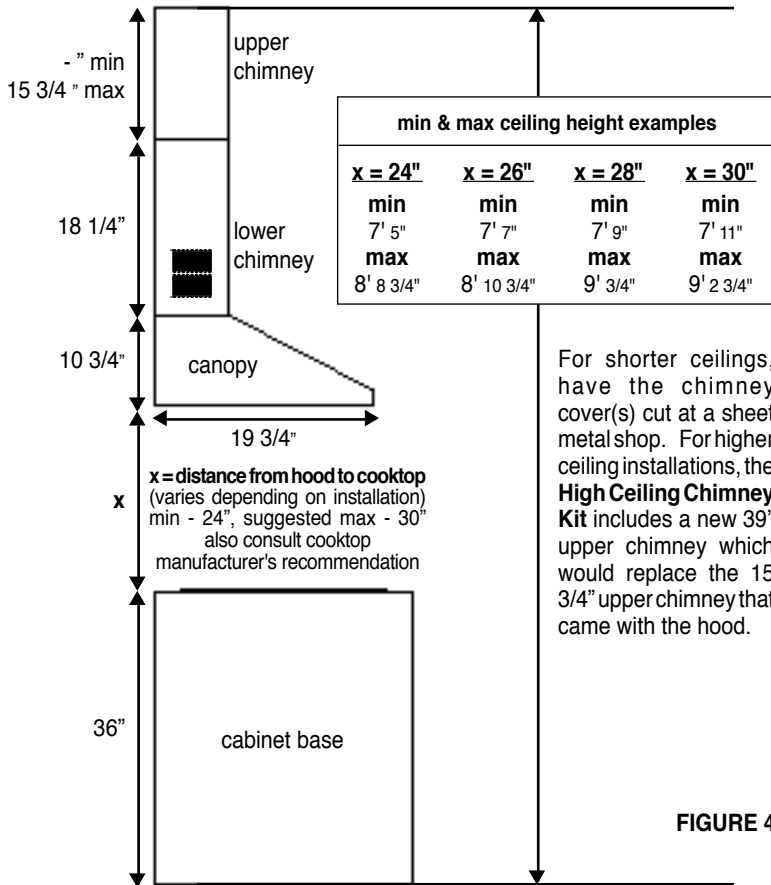
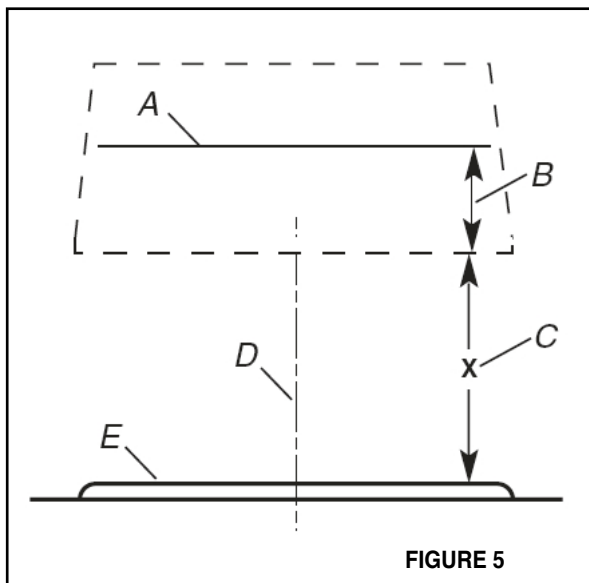

FIGURE 4
FIGURE 5
The Classica chimneys are adjustable and designed to meet varying ceiling heights as indicated in **FIGURE 4**. The chimneys can be adjusted for ceilings between 7' 5" and 9' 2 3/4" depending on the distance between the bottom of the hood and the cooktop (**distance x in FIGURE 4**).
2. Determine and mark the centerline on the wall where the range hood will be installed. Based on the ceiling or soffit height, determine the distance 24" min, 30" max needed (FIGURE 4) between the cooking surface (E in FIGURE 5) and the bottom of the rangehood. To this distance, add 11 3/8" (B in FIGURE 5) and draw a horizontal line (A in FIGURE 5) about 24" long centered on the vertical centerline (D in FIGURE 5) at this distance.